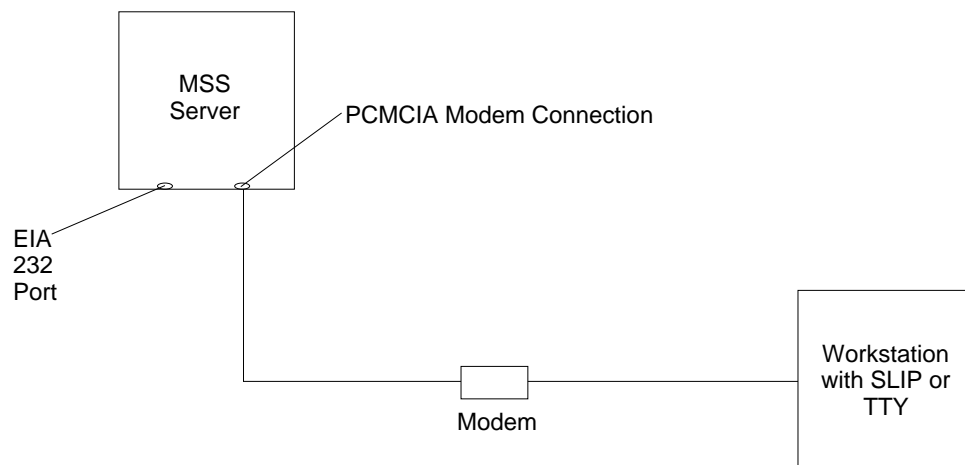

Figure 3-2. Remote Serial Connection to the PCMCIA Modem (Voice/Data/Fax PCMCIA Modem or Data/Fax PCMCIA Modem)
- A remote connection through the PCMCIA modem, the Voice/Data/Fax PCMCIA Modem, or the Data/Fax PCMCIA Modem (see Figure 3-2 on page 3-2)